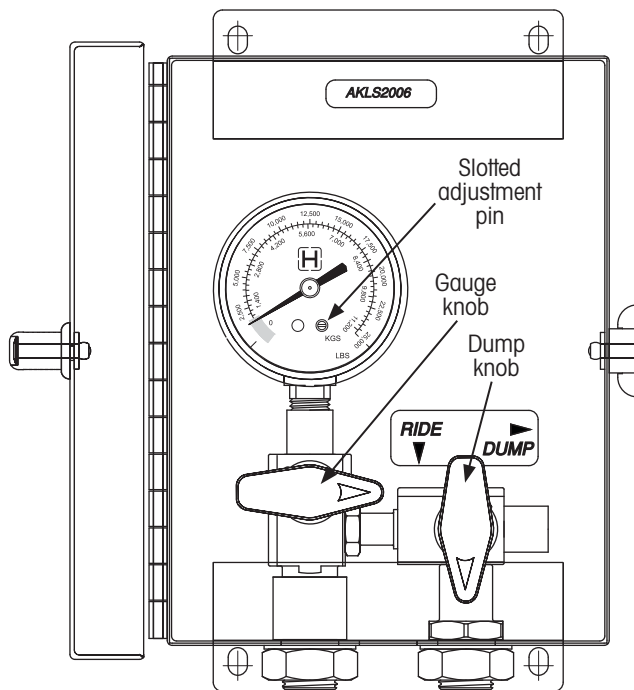

Figure 2: Gauge in OFF and dump valve in RIDE position (AKLS2006 shown)
5. **Locate** slotted adjustment pin at bottom of gauge face (Figure 2).
8. **Rotate** the gauge knob clockwise to the **GAUGE OFF** position shown in Figure 2.
4. **Rotate** gauge knob clockwise to **GAUGE OFF** position (Figure 2).
Rotate the dump valve clockwise to the **RIDE** position shown in Figure 2. Allow the air system to fully charge to ride height before moving trailer.